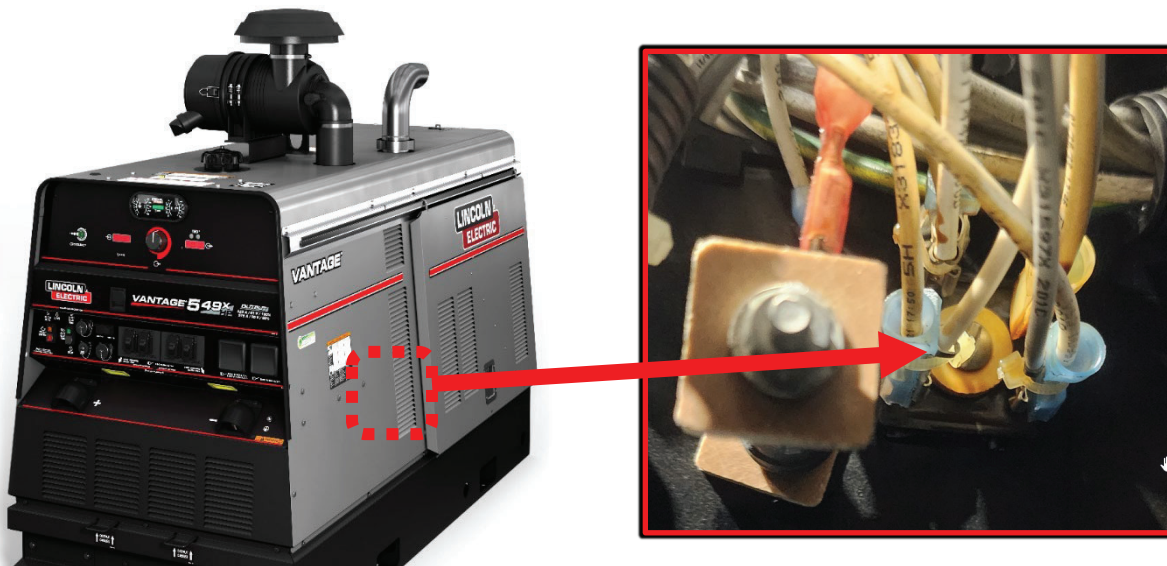

Figure F.1
1. For location of D1 refer to Figure F.1.